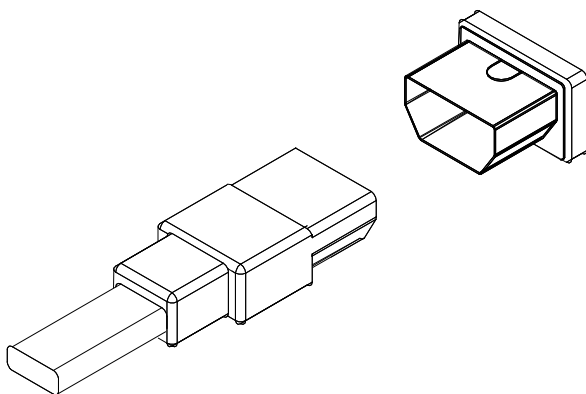

Figure 5–1 - Charge Connector Orientation
1) Drive the vehicle into the desired parking space at the *SuperCharge*™ station. When the RFID tag is within adequate proximity of the bumper antenna, the user interface panel (Figure 5–2) will indicate:
3) Insert the charging cable connector into the charge connector on the vehicle (see Figure 5–1). The user interface panel will indicate one of the following conditions: